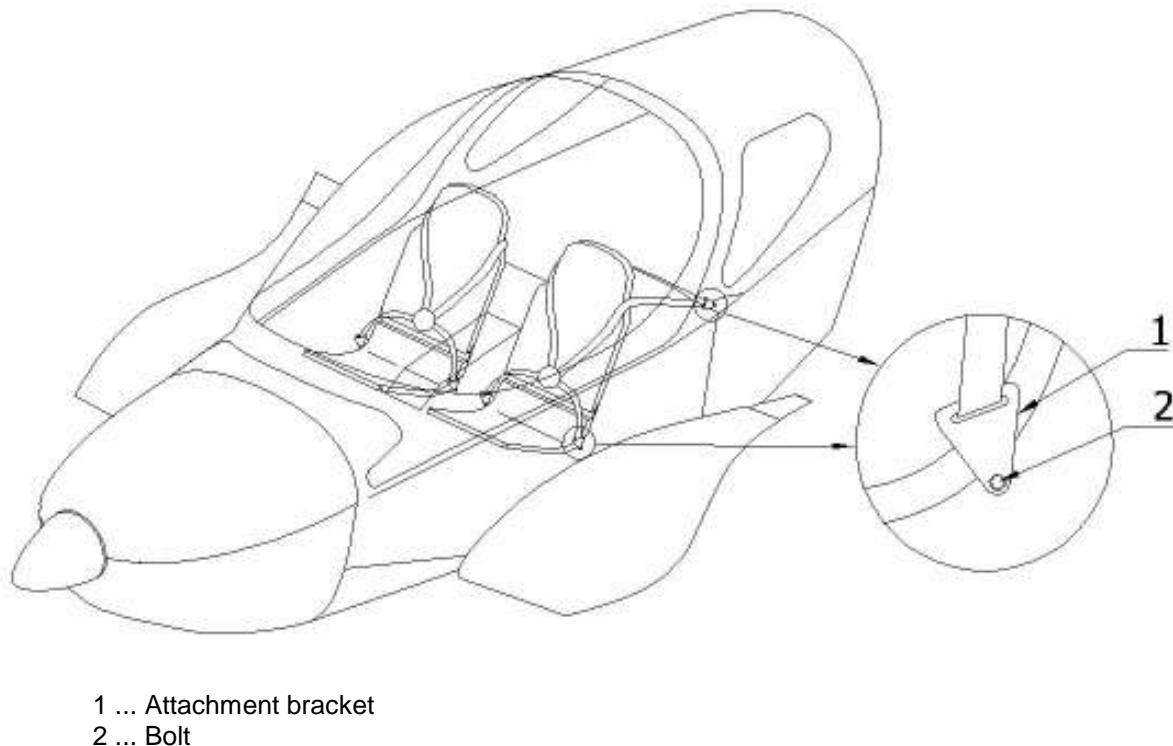

Fig. 7-2: Removal/Installation of safety harnesses
- (a) Remove shoulder harnesses from the attachment brackets (1) in luggage compartment (see Fig. 7-2). Remove the nut with washer and the bolt (2).
- (b) Remove the side harnesses from the side attachment brackets (1) - remove the nut, the washer and the bolt (2) from each side.
- (a) Install the side harnesses (see Fig. 7-2) - put on the bolt (2) the washer and attachment brackets (1) and insert the bolt into the seat angle and screw the nut.
- (b) Install the shoulder harnesses - put on the bolt (2) the washer and the attachment brackets (1) and insert the bolt (2) into the bracket in luggage compartment and screw the nut.